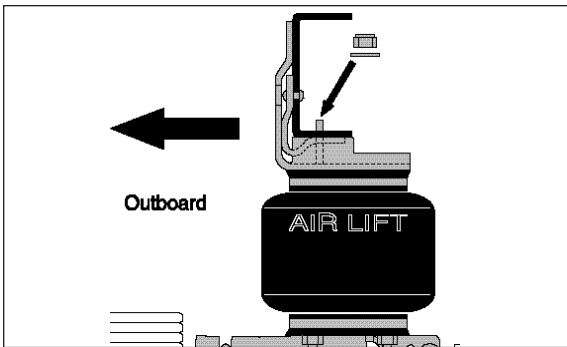

Figure 10
3. Secure the stud using flat washer (L) and $\frac{3}{8}$ " lock nut (K). See Figure 10. Torque stud nut to 16ft-lbs.